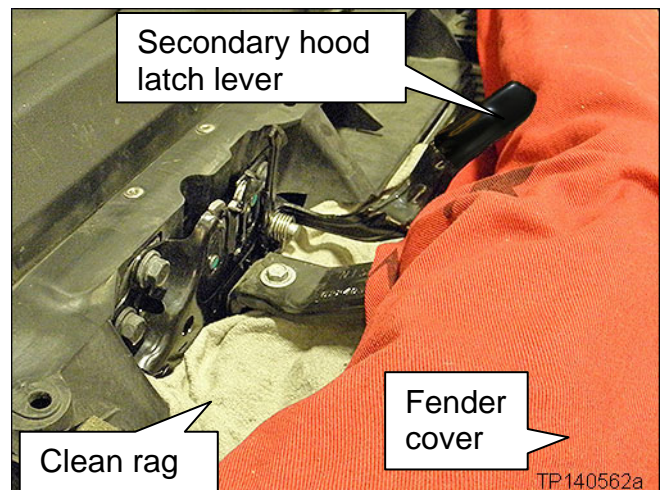

Figure 2
3. Place a clean rag under the hood latch assembly as shown in Figure 2.
4. Place a clean fender cover to protect the front fascia as shown in Figure 2.